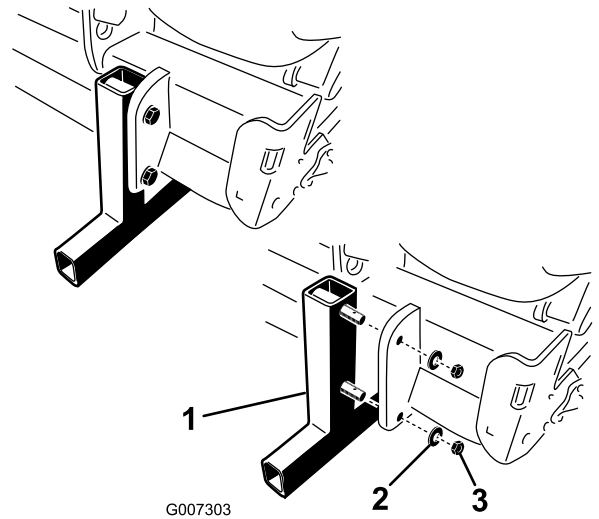

Figure 19
4. Insert the lynch pins (included in loose parts) into the stand pins for storage (Figure 19).
2. Remove the nuts and the lock washers securing the storage stands to the aerator (Figure 19).